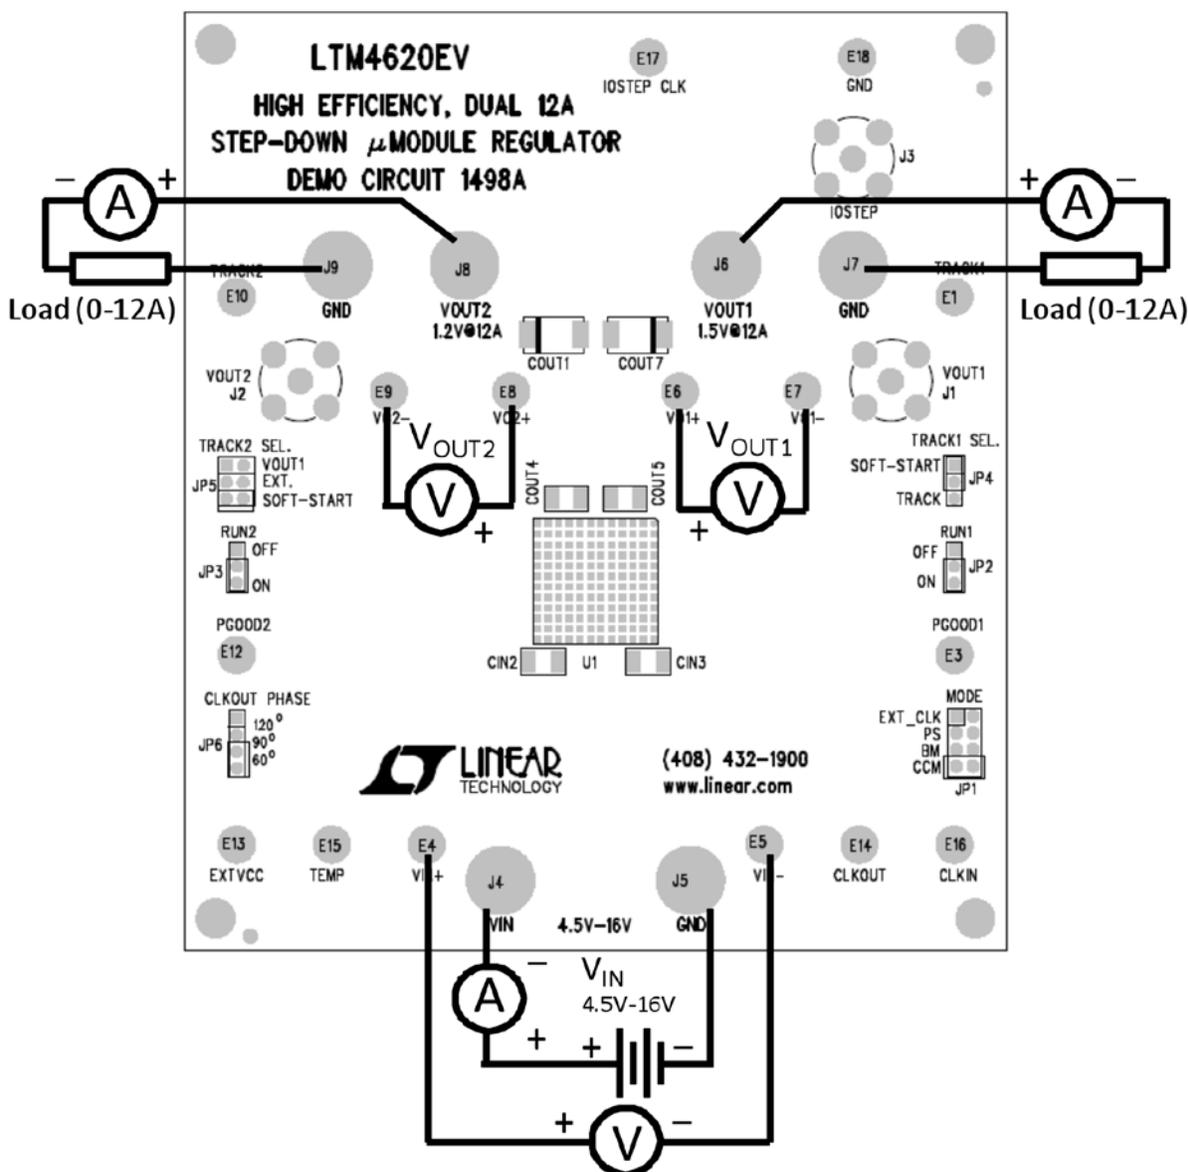

Figure 1. Test Setup of DC1498A
DC1498A is easy to set up to evaluate the performance of the LTM4620EV. Please refer to Figure 1 for proper measurement setup and follow the procedure below:
2. With power off, connect the input power supply, load and meters as shown in Figure 1. Preset the load to 0A and V_{IN} supply to 12V.